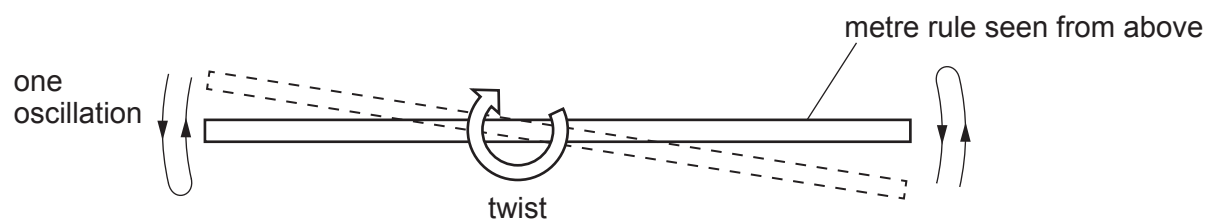

Fig. 1.3
- (c) He twists the metre rule a small amount, as shown in Fig. 1.3, and then lets it go so that it oscillates in a rotating motion.